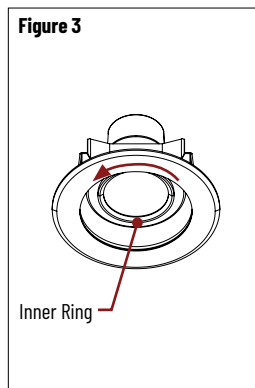

Figure 3
3. Turn inner ring counter-clockwise to loosen. (Figure 3)